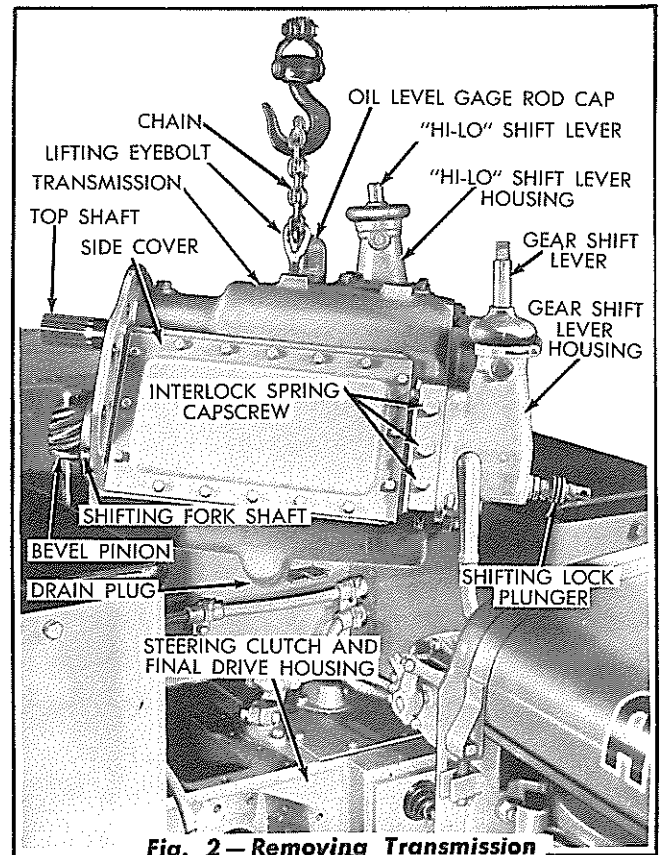

Fig. 2—Removing Transmission
3. Remove the four (4) capscrews from the right brake pedal lever bracket and move the bracket assembly to provide clearance for removal of the transmission.
7. Remove the two (2) U-bolts attaching the universal joint to the rear yoke. Hold the two (2) universal joint bearing assemblies to prevent them from falling off. Place a small pry-bar between the universal joint and the rear yoke and pry the universal joint assembly forward to clear the rear yoke. Tie or tape the bearing assemblies in place on the universal joint journal. Remove the universal joint assembly by pulling the front yoke from the engine clutch shaft splines.
9. Install a $\frac{5}{8}$ " NC eye bolt in the tapped hole of the transmission case as shown in Fig. 2. Using a suitable chain and hoist, support the weight of the transmission assembly and remove the capscrews attaching the transmission to the steering clutch and final drive housing.